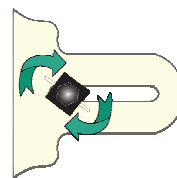

fig. 2
2. Loosen off the wing nuts holding the wing nuts holding the cleats in position (see fig. 2)